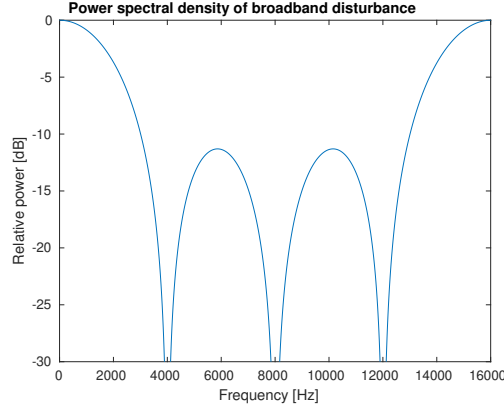

Figure 3: Broadband disturbance shows power primarily in range  $[0, f_s/8]$ .
**Broadband noise** This noise source is generated by up-sampling a Gaussian process sampled at  $1/4$  the system sample rate, up-sampled using zero-order-hold. This implies a vector of samples will always be of form  $y = [x_1, x_1, x_1, x_1, x_2, x_2, x_2, x_2, x_3, x_3, x_3, x_3, \dots]$  where  $x_n$  is randomly sampled from the  $N(0, 1)$  distribution. Figure 3 illustrates the normalized power spectral density of the up-sampled noise, i.e.  $E|Y_{BB}(f)|$ , showing that the majority of the signal power is located in the range  $[0, f_s/8] = [0, 2000]$  Hz.